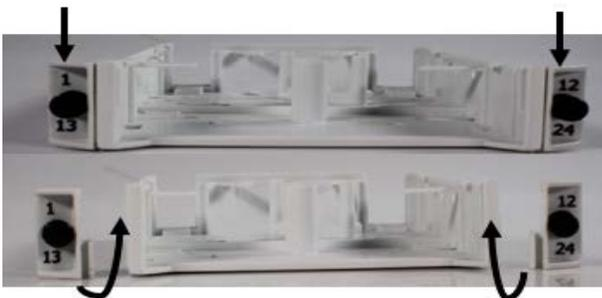

Figure 5:
5.3 For install and rework purposes the ears on the FOX cassette can be removed by a simple sliding technique. **See Figure 5.**